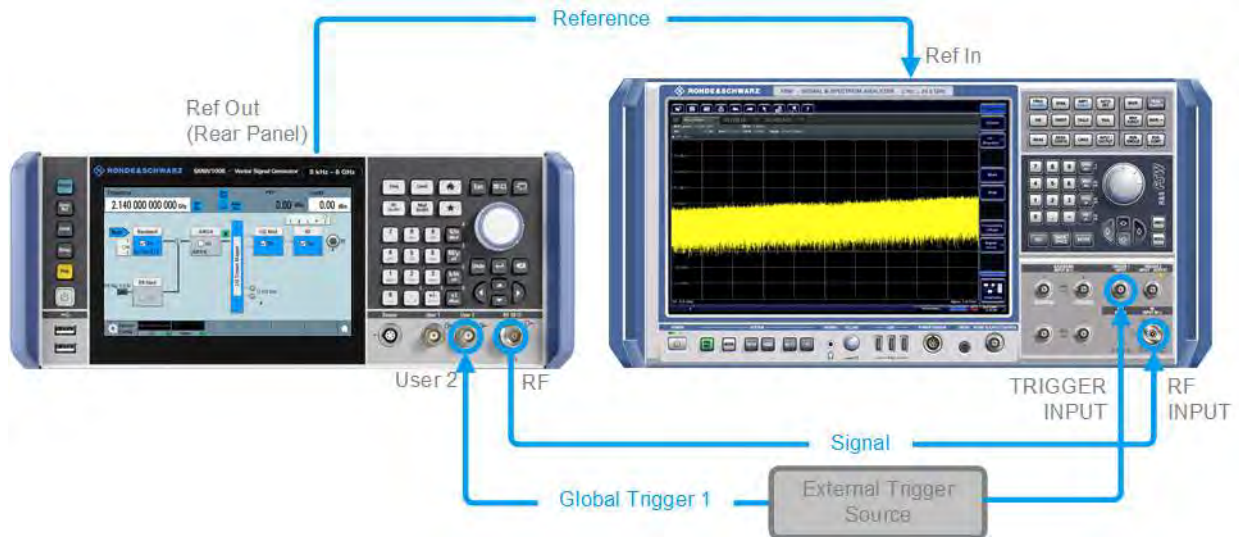

Figure 2-9: Simplified representation of a test setup**
1. Use a suitable cable to connect the external trigger source to the User 2 connector of the R&S SMBV100B. See Figure 2-9.
The Figure 2-9 depicts the location of the connectors and explains the connection as principle. In practice, you would rather "substitute" the analyzer by a DUT, like a base station (BS). Other than in the example, the DUT can be the source for the reference signal. Instead of using an external trigger source, the DUT can also send, for example, a frame trigger signal to the R&S SMBV100B. The R&S SMBV100B acts still as the signal source.